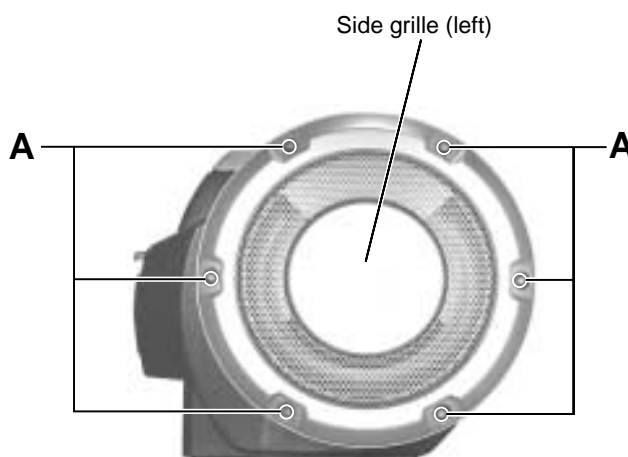

Fig.1
- The microcomputer board is put up as shown in Fig.1.
(See Fig.1 and 2)